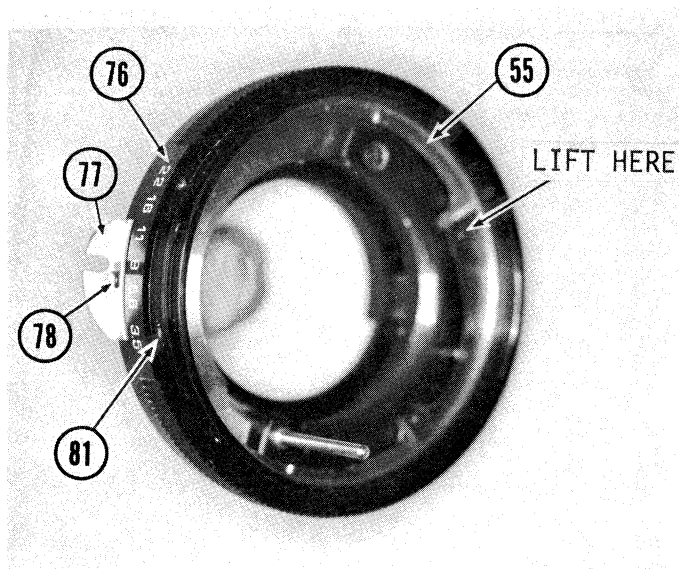

Fig. 41
- 5.3.1.5 Remove Coupler Plate Screw (78) and Coupler Plate (77). (Fig. 41)